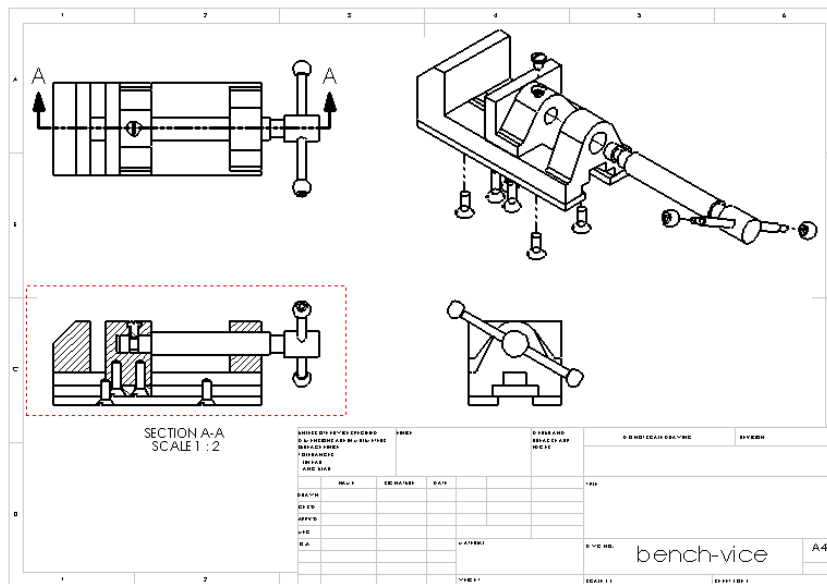

Figure 12-55 Drawing sheet after generating all the views
- f. Generate the isometric view and change the state of the isometric view to the exploded state, refer to Figure 12-55.
5. Move the views to place all of them in the drawing sheet. Figure 12-55 shows the final drawing sheet after generating all the drawing views.